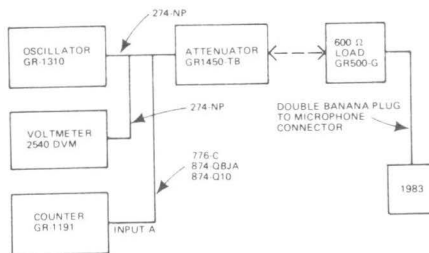

Figure 5-1 Test setup - general.
b. Arrange the test setup shown in Figure 5-1.
a. Retain the same setup of Figure 5-1 and set the controls as follows:
a. Retain the same setup of Figure 5-1 and set the controls as indicated in para 5.5.4 step a.
a. Retain the same setup of Figure 5-1 and set the controls as indicated in paragraph 5.5.4 a.